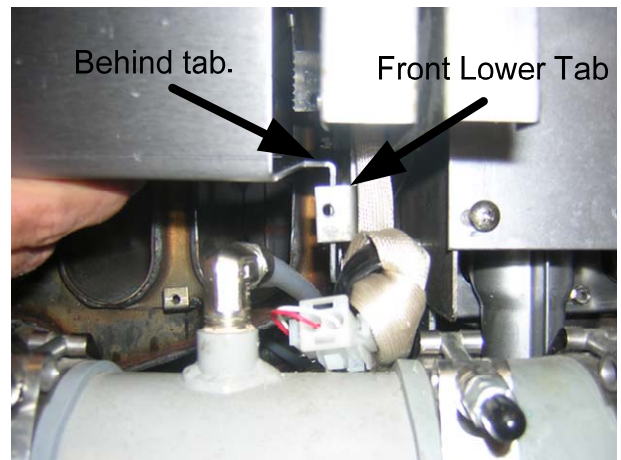

Figure 6: Pass the tab on the brace over the front lower tab on the fryer.
- B. Maneuver the other end over the drain manifold. Ensure the tab on the braces passes over the front lower tab on the fryer (Figure 6).